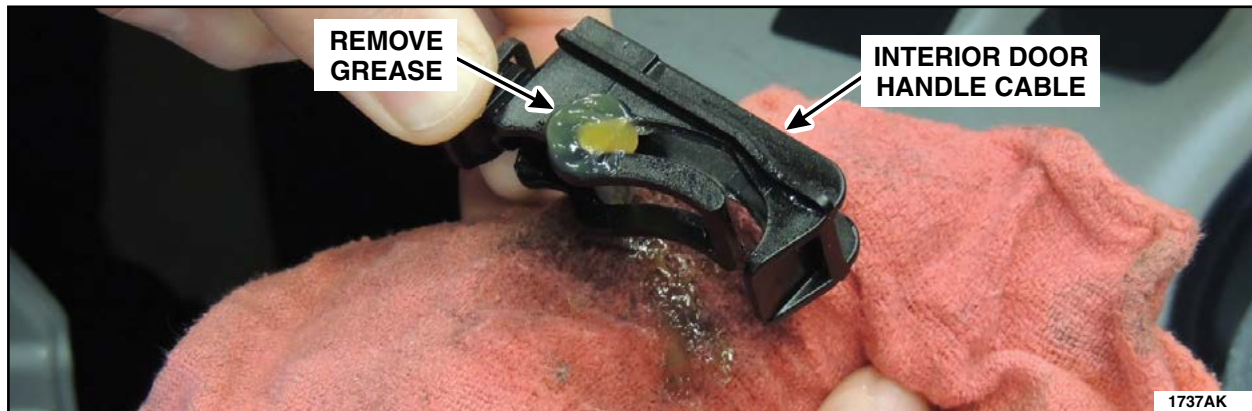

FIGURE 11
16. Using isopropyl alcohol and a clean shop cloth, thoroughly remove grease from the interior door handle cable mechanism. See Figure 11.